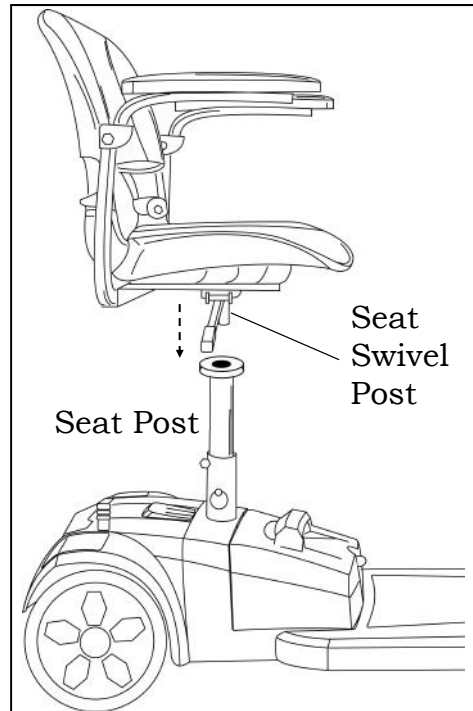

Figure 24. Installing the Seat
8. Place the seat swivel post into the seat post as shown in figure 24.